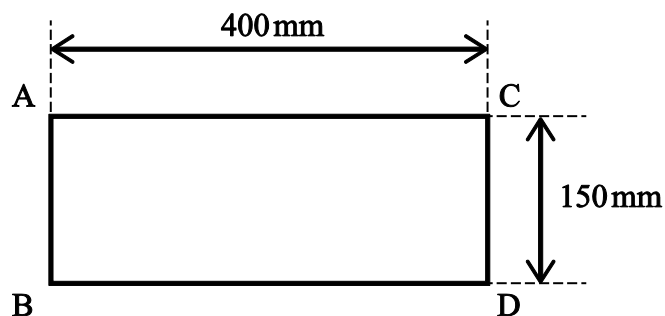

Fig. 4
- (b) Fig. 4 shows a rectangular plate, ABCD, which has uniform density. The plate is 400 mm long and 150 mm wide.